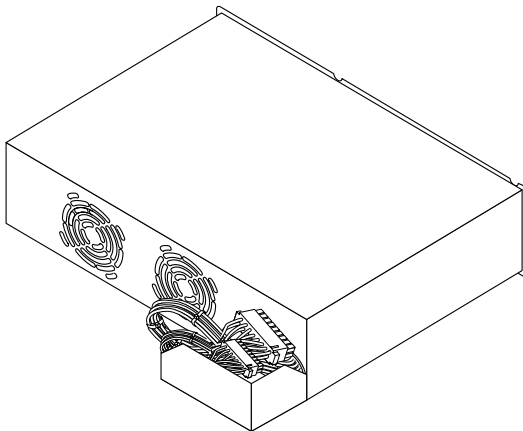

FIGURE 6-4 Dressing the Power Supply Cables
1. Tuck the power supply cables into the plastic retainer bracket (FIGURE 6-4).